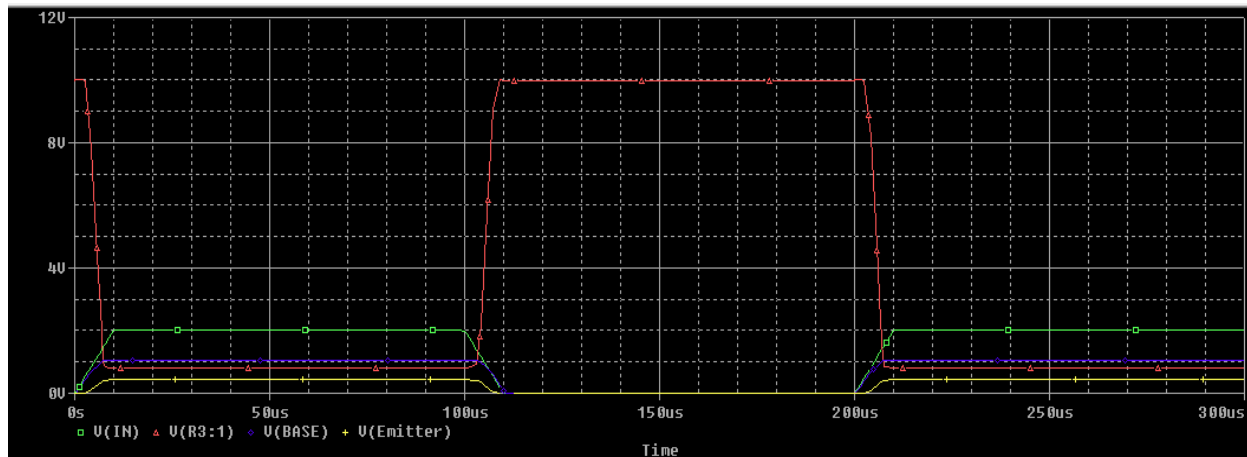

Figure 2-26: Four Traces in Probe
38. Select **OK** to add the two traces to the Probe waveform window. The waveforms should now match Figure 2-26; trace colors/symbols may differ.